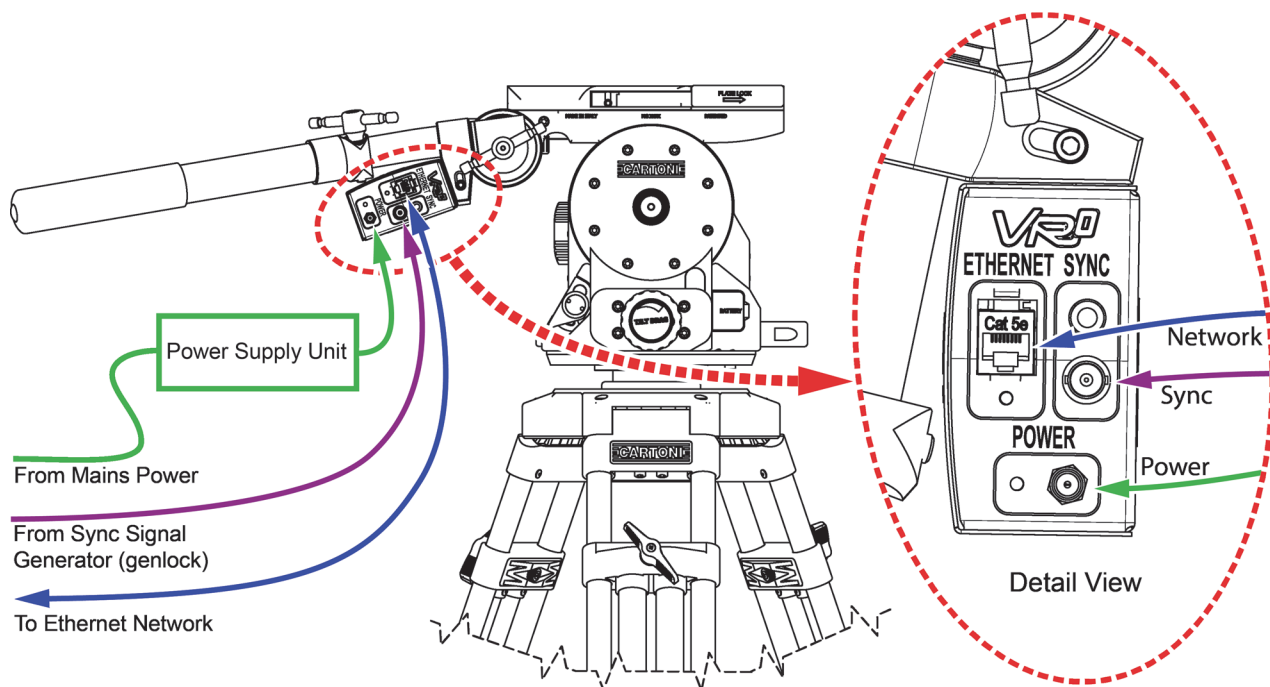

Figure 3.10 - Connecting Sync, Network, and Power Cables
- 2.** Connect the video reference (genlock/sync) signal cable (not included) to the **SYNC** BNC connector on the VRzero module (see **Figure 3.10**).